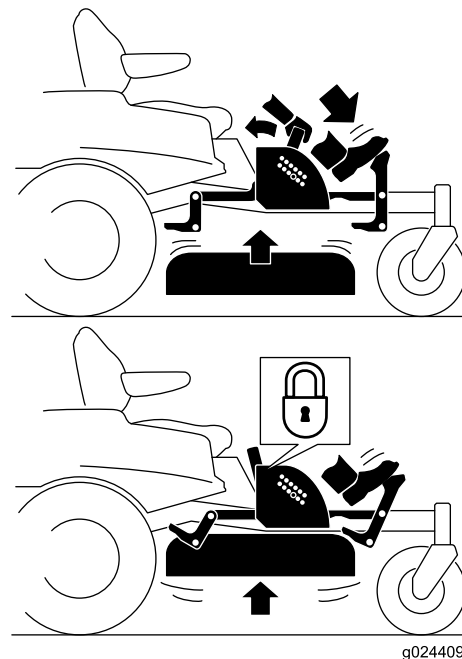

Figure 25
- Press the deck-lift pedal down to raise the deck; continue to press the pedal until the deck locks in the transport position (Figure 25).
- Push on the deck-lift pedal with your foot and pull the transport lock handle rearward to disengage the transport lock (Figure 25).
4. Push on the deck-lift pedal with your foot and pull the handle rearward to disengage the transport lock (Figure 25).